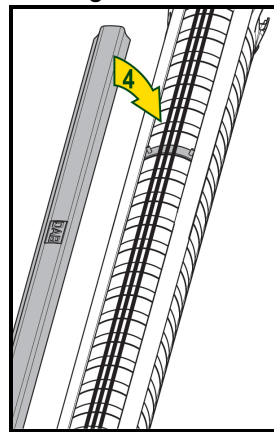

Fig.2
2. Lay down the motor cables (Fig2).
3. Lay the duct over the cables (Fig2).